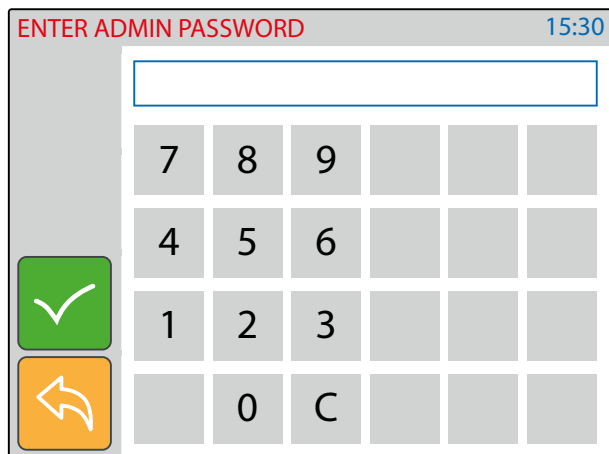

Fig. 15 Enter engineer password
- This setting is password protected (Fig. 15) because the adjustment will affect the entire installation.